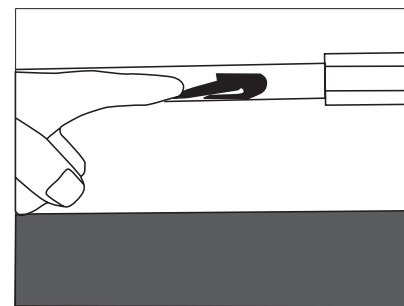

Figure 7
*Now you are ready to install your concealment cover. Lay the mirror on the floor and slide it open. The drawer slides will come completely open if you depress the small plastic tab and slide the two halves of the slide apart. With the two halves apart, you can now mount the back half (the half that will remain stationary on the wall) with supplied assembly screws. See Figures 7*